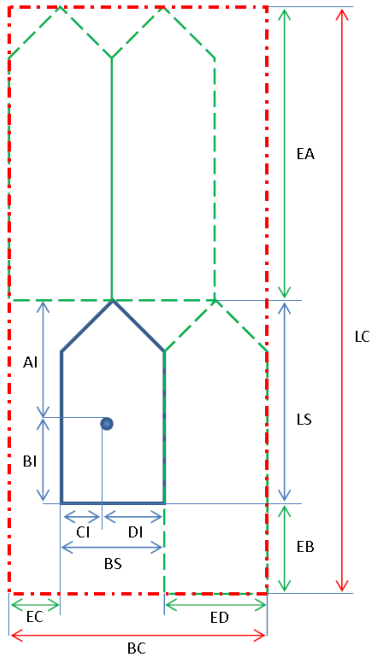

Figure 18: Physical location of GNSS sensor on the ship and in a convoy
- Visible if Inland Waterways is enabled, see also Figure 18 on page 24.
- Visible if Status is set to "Power-Driven Vessel Towing Alongside", see also Figure 18 on page 24.